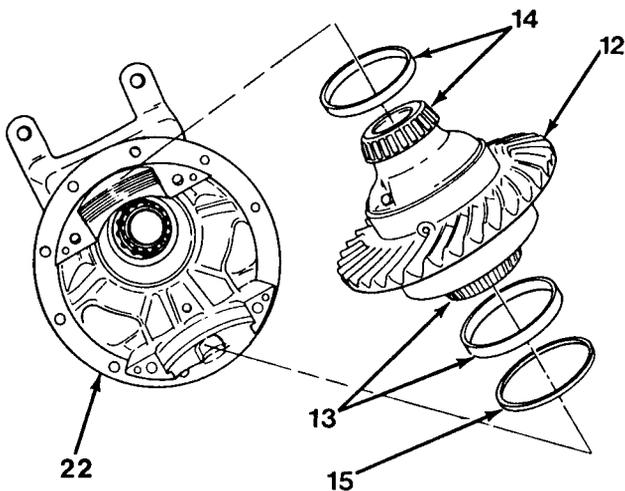

Figure 12-4
- a. Heat bearing cones (13) and (14, Figure 12-4) to approximately 176 degrees F (80 degrees C) and install Use a bearing driver, if necessary.
- b. Position carrier housing (22) with large opening upward. Fit bearing cups (13) and (14) and shim (15) on ring gear (12) and place assembly in carrier housing (22).